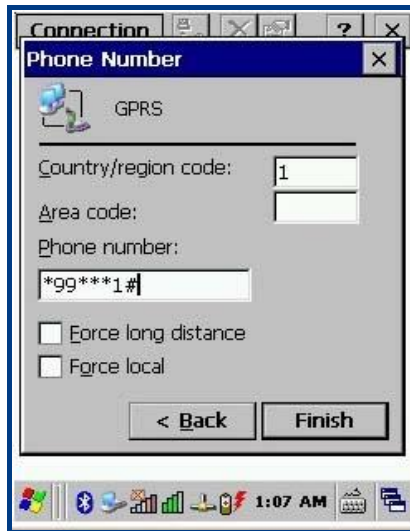

Figure 6.6 Set phone number
- F. Enter the phone number in the corresponding field. Tap “Finish” (Figure 6.6).